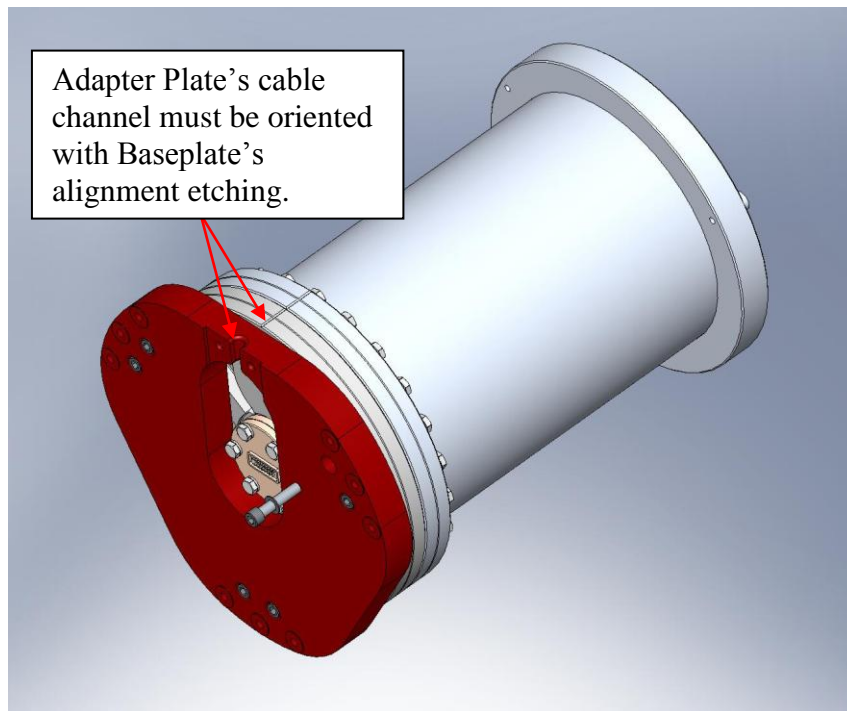

Figure 3.46. Adapter Plate bolted onto GS-13 Baseplate. Tapped holes are blind, so vented screws must be used.
- Insert Heli-Coils into (6) **GS-13 Adapter Plates** (D071180):
- Mount **GS-13 Adapter Plate** to **Pod Baseplate** (20007813). Cable channel in **Adapter Plate** must line up with alignment etching on **Baseplate** (as shown in Figure 3.46). Add *vented* hardware and torque to final spec.